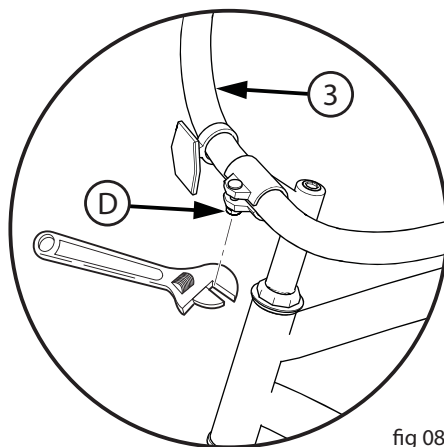

fig 08
3. Tighten the Stem Bolt (C) just enough to hold it in position.
4. If necessary, loosen the Handlebar Clamp Nut/Screw (D) and rotate Handlebar (3) into a comfortable riding position (**fig 08/08a**).
5. Tighten Handlebar Clamp Nut/Screws (D) just enough to hold it in position (**fig 08/08a**).
One Bolt Clamp (fig 08):